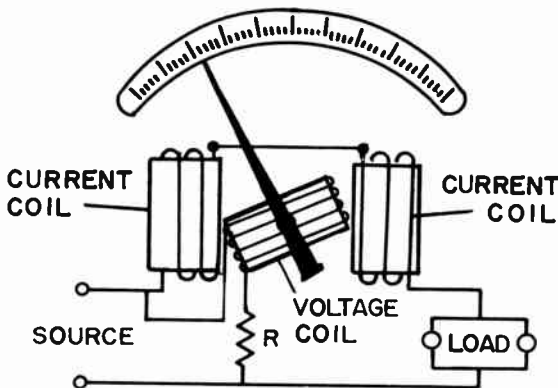

FIG. 4-43. A WATTMETER.
**3 THE WATTMETER.** It has previously been stated that the true power can always be determined by the use of a WATTMETER. Fig. 4-43 shows an elementary type of wattmeter. It contains two coils; a movable coil and a stationary coil. The movable coil with a series resistance forms the voltage element and the stationary coils constitute the current element. Note that